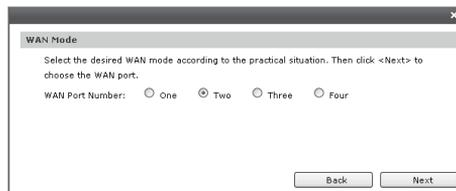

Figure 5-5 WAN Mode
4. Select the total number of WAN ports you prefer to use as the Figure 5-5 shown. Then click **Next** to load the **WAN Port** screen.